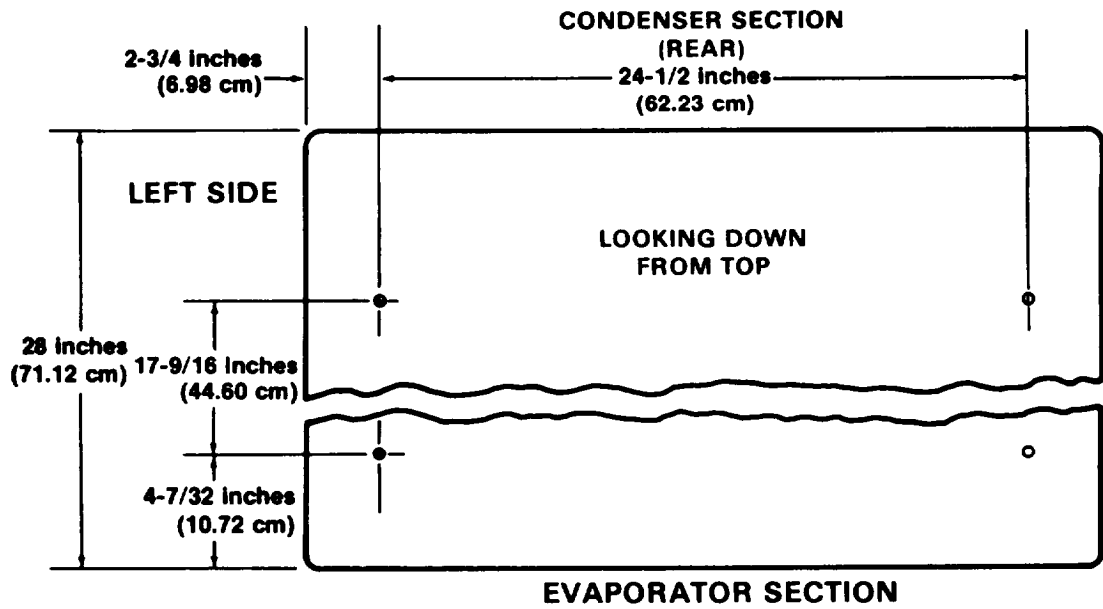
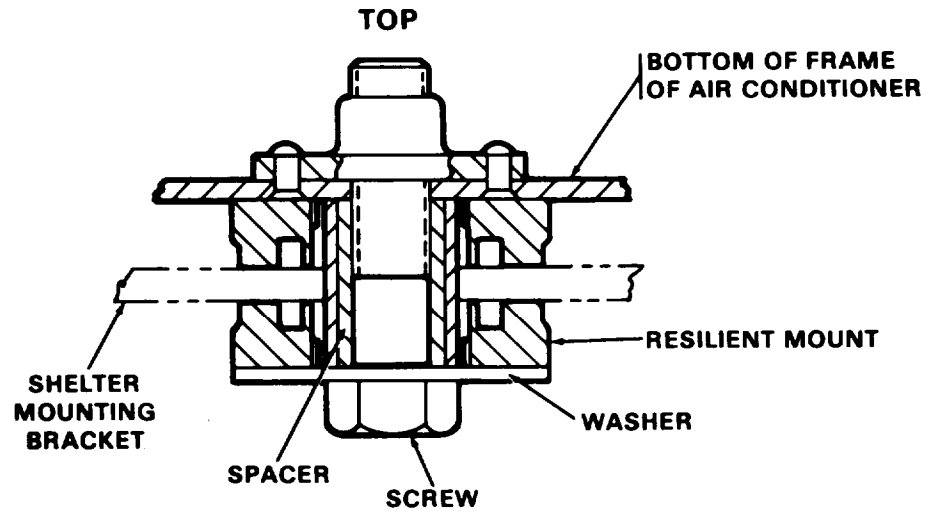

Figure 2-3. Base mounting holes
Figure 2-4. Typical installation of air conditioner to enclosure
c. Mounting. Base mounting hole dimensions are shown on figure 2-3. The resilient mount parts shown in figure 2-4 are shipped with the air conditioner.